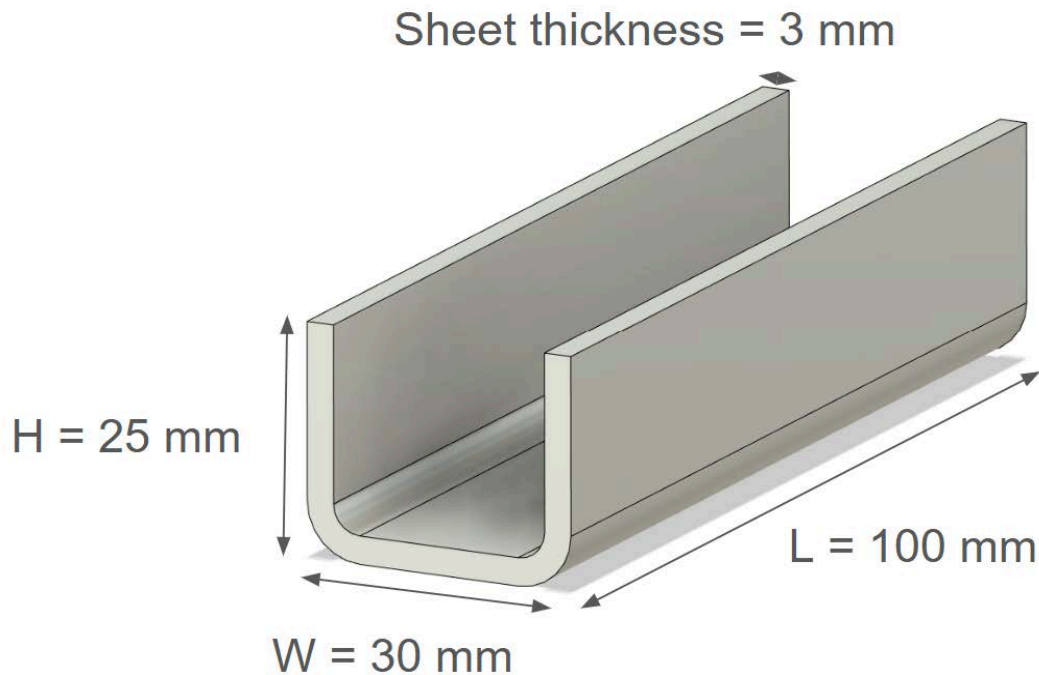

Figure 4. Bond arm made with sheet metal stamping and bending showing the desired part dimensions.
- b) **Sheet metal stamping and bending.** You would like to create a bond arm with a U-shaped profile with dimensions shown in Fig. 4 using sheet metal stamping and bending.
- i) Using AL-5052 (properties in Appendix 1), what is the **shearing force** required for the stamping machine to create **one sheet** that is to be bent to the beam shown in Fig. 4?
alloy (Ti-6Al-4V) which has a higher Young's modulus. This way, you are able to reduce the thickness to 2 mm without reducing the bending stiffness of the beam. **Name and explain at least 2 issues** you might encounter in creating a beam with the outer dimensions shown in Fig. 4 using the same stamping and bending setup?
- i) Estimate the **cooling time** to die-cast a part following the dimensions shown in Fig. 4. Assume a coefficient of $C = 80 \text{ s/mm}$.
i) **Geometry.** Would you keep a similar geometry to the aluminum bond arm, such as the H-beam (Fig. 3) or U-beam (Fig. 4)? Consider the shape and construction of carbon fiber sheets where they are commonly used (sports equipment and aerospace) and **sketch a suitable geometry and justify the design.** 4 pts, 2 pts for sketch, 2 pts for valid justification.